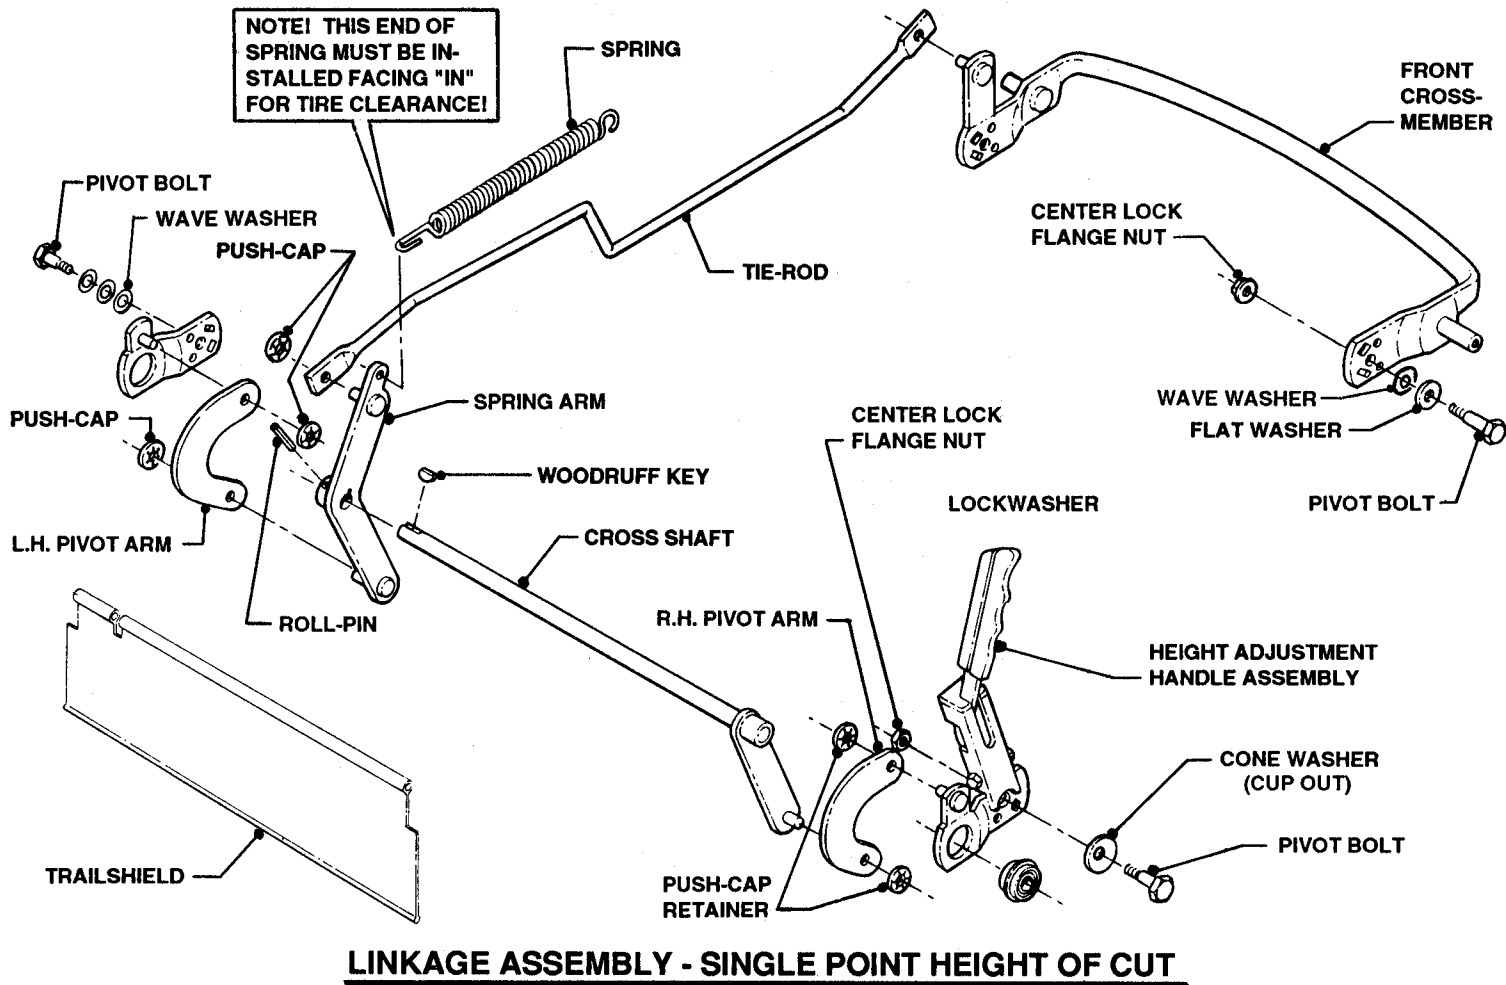

FIGURE 3.26
- Figure 3.26 (on Page 15) shows the components which make up the linkage of the Single Point Height of Cut Walk-Behind Mower.
- Most of the rear linkage must be removed to replace the trail shield or transmission and, when reassembling the linkage, care must be taken to reposition the fasteners, spring, washers and other components exactly as shown in Figure 3.26.